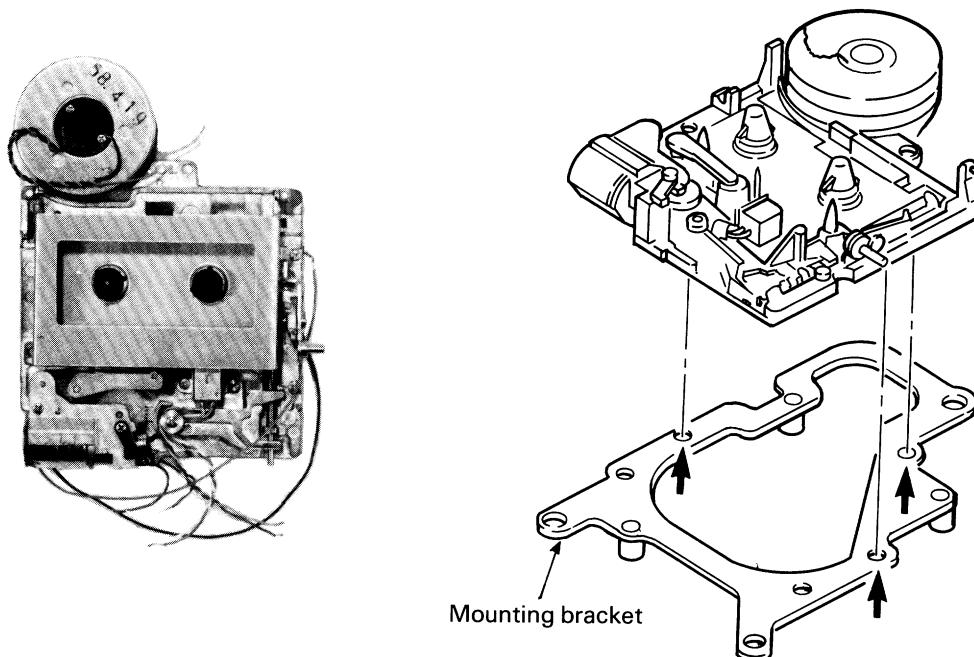

Fig. 4-19
- Step 2. Remove microcassette mounting bracket by loosing three screws which are marked with arrows on Fig. 4-19.